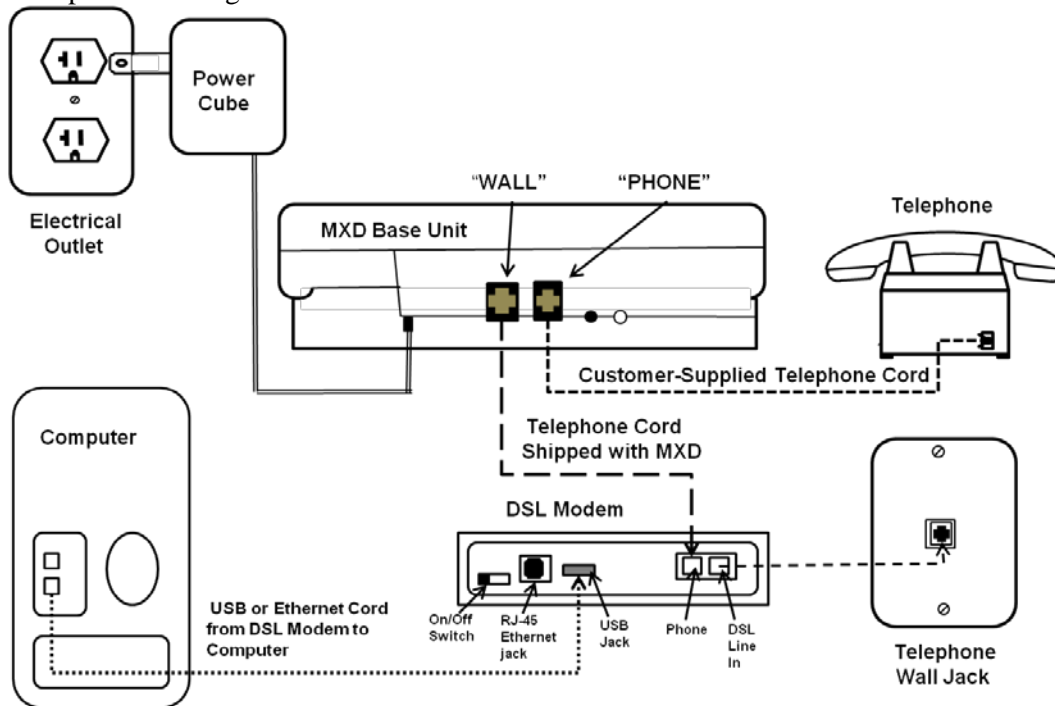

Figure 8. MXD Connection to DSL Modem
3. **Configuration 3. Alternative approach if neither of the above configurations works.** If the MXD cannot communicate with the response center using Configurations 1 or 2, you may be able to connect the MXD unit into a phone jack built into the DSL Modem, which should be located near your computer. See Figure 8 below.